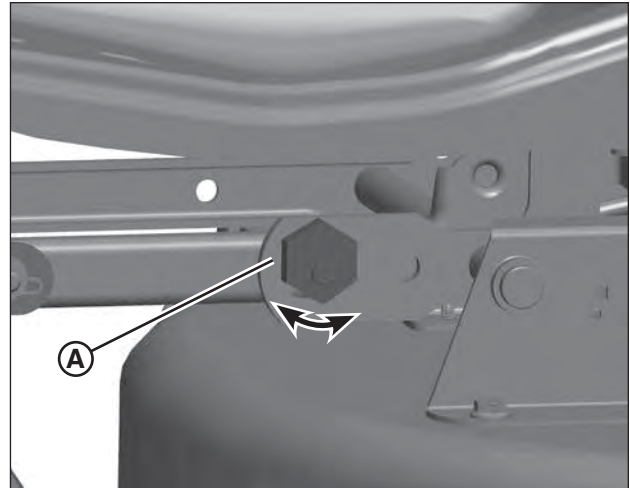

Figure 37: Mower deck leveling (side-to-side)
7. If adjustment is needed, slowly turn the eccentric (A, Figure 37) on the left front lift arm until the blade tips are within 1/8" of each other.